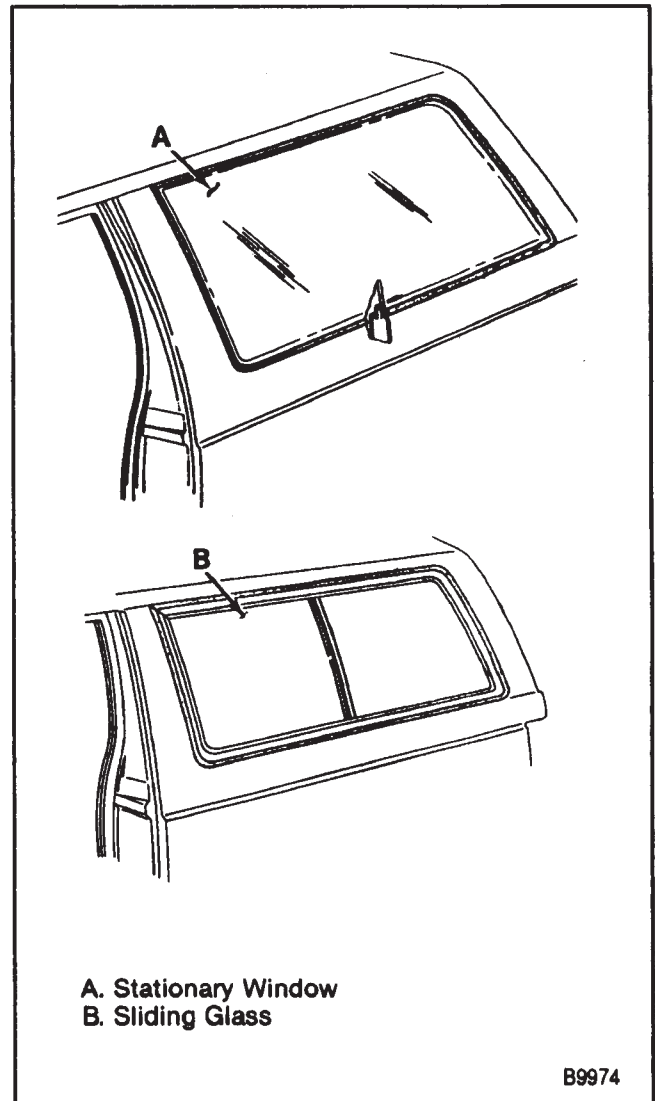

Figure 16—Body Side Window
6. Window (figure 16).
7. Window (figure 16).